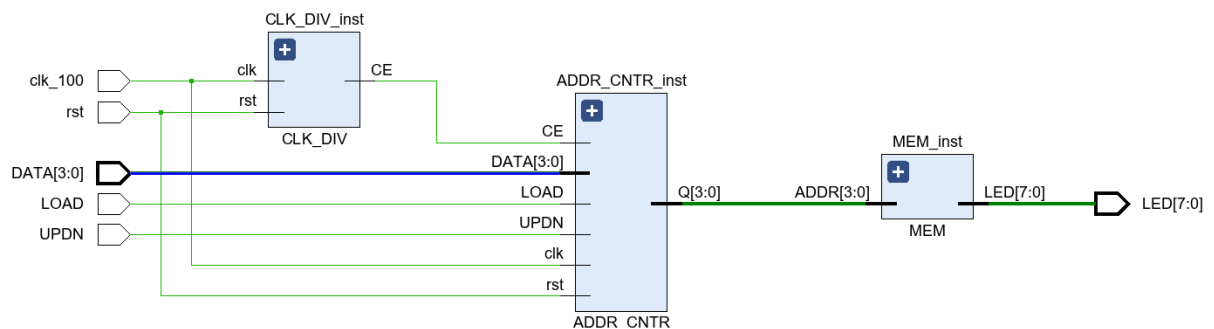

Figure 3 Detailed Schematic for the *LED_DRIVER* Circuit
1. The circuit diagram described in your Verilog code must be exactly the same as Figure 3. Each component should implement and can only implement its own functionality!
- The name of the top-level module should be correct (refer to **Figure 3.**).
- The name of the components should be correct (refer to **Figure 3.**).
- The name of I/O ports in the top-level should be correct (refer to **Figure 3.**).
- The name of the signals should be correct (refer to **Figure 3.**).